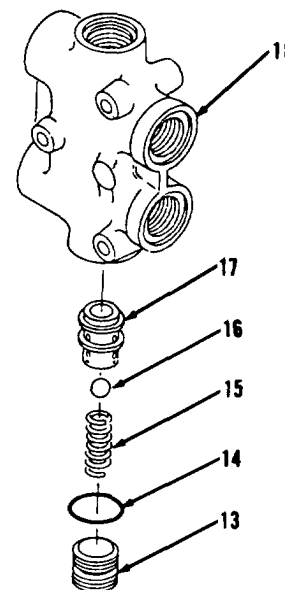

Figure 10-70.
4. Using an alignment punch and hammer, remove seat (11) and piston (12).
5. Loosen plug (13) carefully to relieve tension of spring (15). Remove plug (13), preformed packing (14), spring (15) and ball (16, Figure 10-70). Discard preformed packing (14).
6. Using an alignment punch and hammer, remove seat (17) from check valve body (18).